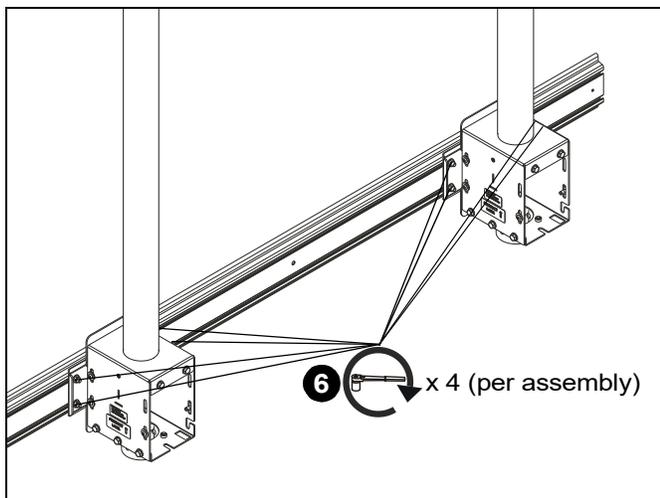

Figure 6
- Tighten four bolts on back of each assembly to secure rail (HH) in place. (See Figure 6)